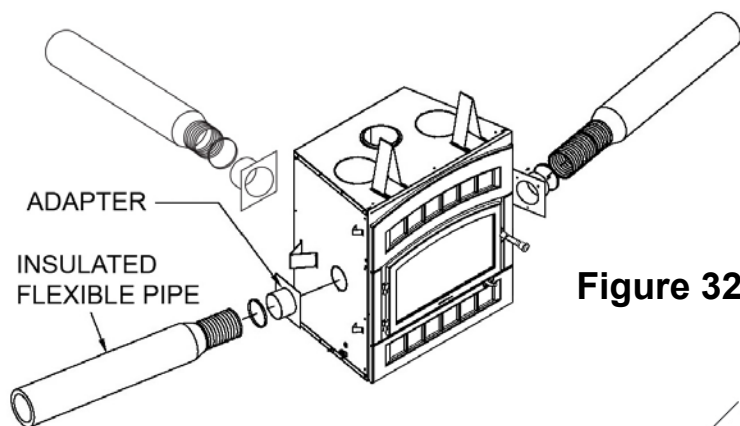

Figure 32
1. Remove the knock outs at the back and/or the side of the fireplace and cut the insulation around the hole. Fix the adapter into place with screws. You can use more than one outlet on the fireplace (figure 32);